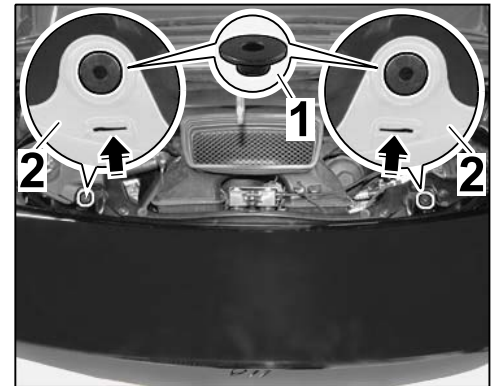

Figure 18
3.7.4 Insert two collar bore bushes (20 x 7 x 7.5) in the rear spoiler (⇒ *Figure 18*).
3.7.5 In the viewing window (⇒ *Figure 18* -arrows-), check whether the rear spoiler is touching the lock (mounting adapter).